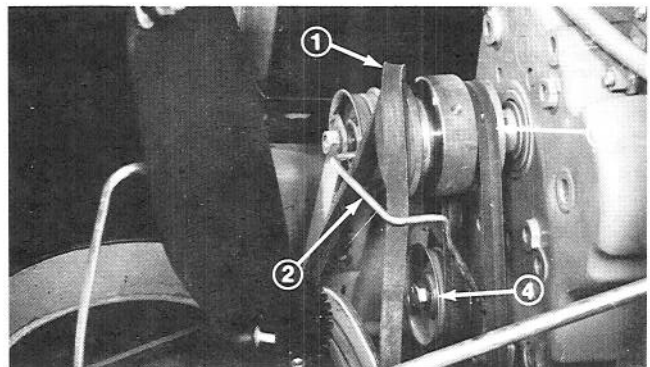

Figure 38
4. Remove the defective belt or belts; then install new belt(s). Make sure auger drive belt is installed to inside of the belt guide (Fig. 38). Traction drive belt must be installed against inside of the idler pulley (Fig. 38).
8. Remove high tension lead from spark plug and belt guard. Loosen capscrew and nut securing idler pulley and slide pulley further against belt (Fig. 38). Move the pulley only enough to remove belt slack, so that belt is not over-tensioned.